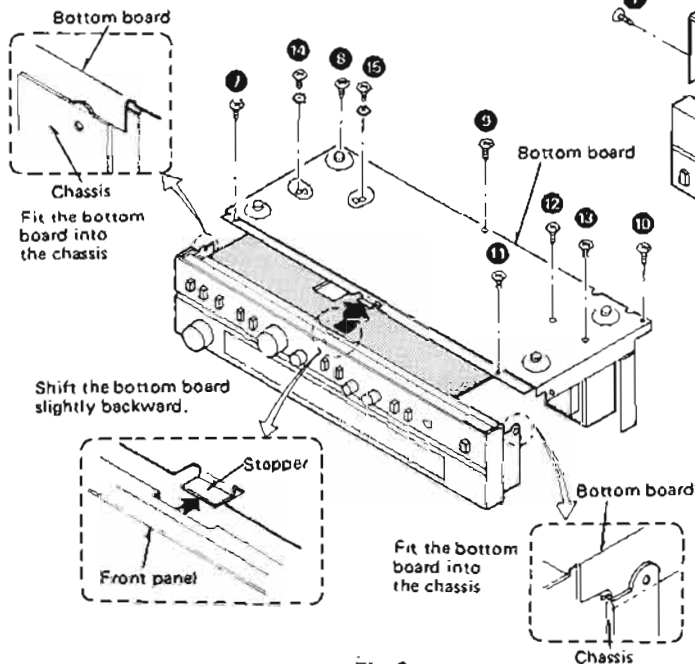

Fig. 1
1. Remove the 6 setscrews (Fig. 1: ① ~ ⑥) of the cabinet.